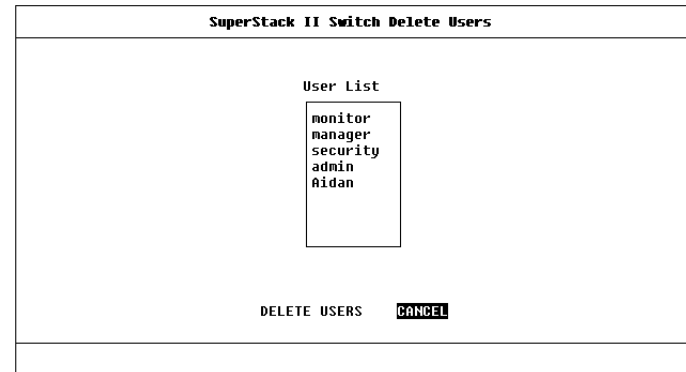

Figure 4-4 Delete Users screen
- 1 Select the DELETE USERS option. The Delete Users screen is displayed as shown in Figure 4-4.